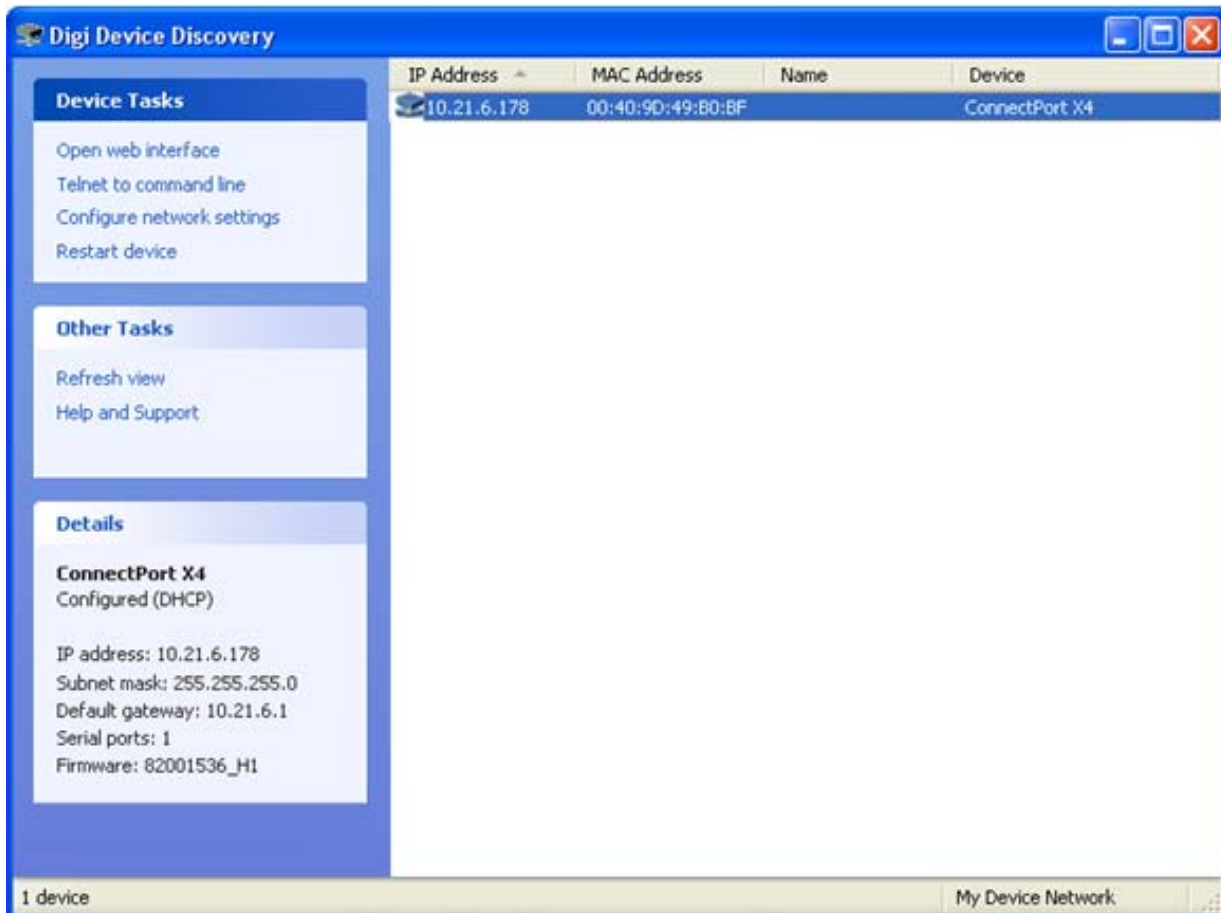

Figure 30: Locate your Device in the Device List
14. Now you need to configure the Smart Project Editor with the MAC addresses of the two XBee devices that were added to this project in Step 7 (above). To do that, simply copy the XBee Extended Address from the ConnectPort X4's web UI (as shown in Figure 30) into the appropriate MAC address field within the Smart Project Editor.